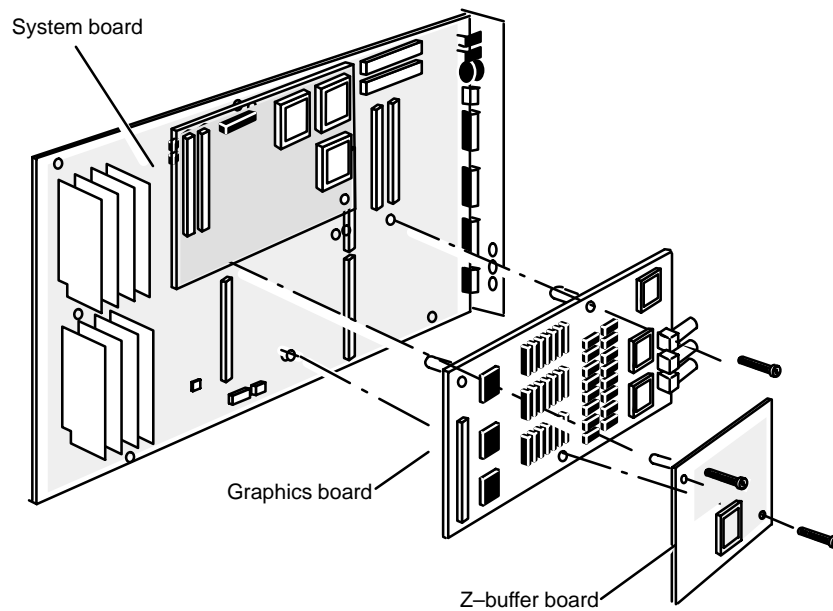

Figure 9-21 Removing the Board-Retaining Screws
2. Remove the board-retaining screws from the board you are removing. Figure 9-21 shows the location of the board-retaining screws on the option boards.